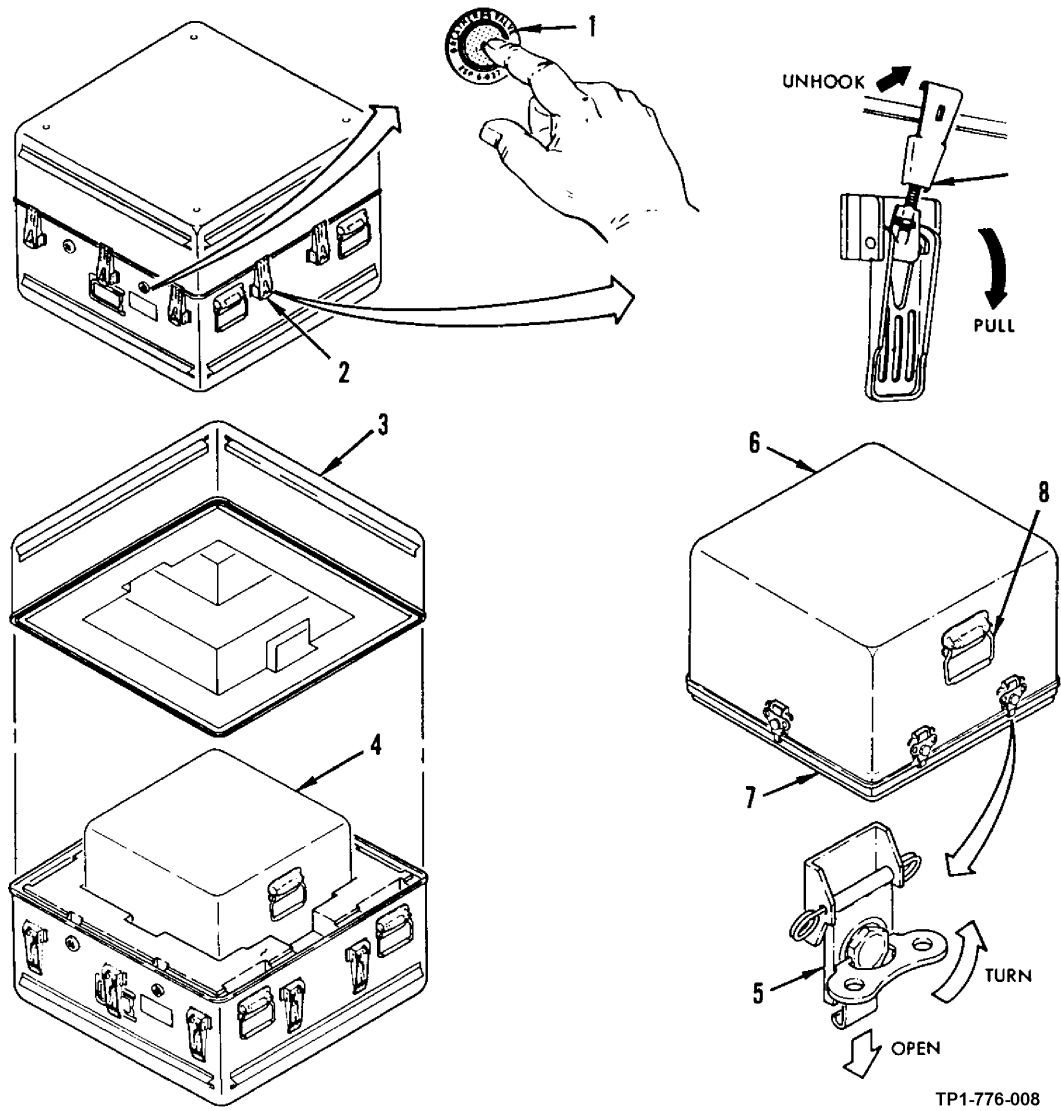

Figure 4-2. Inner Case Removal from Shipping and Storage Container
- (1) Remove inner case assembly from shipping and storage container as follows:
- (a) Press pressure relief (1, figure 4-2) on container.
- (b) Release and unhook container latches (2).
- (c) Remove container cover (3) and set aside on clean dry surface.
- (d) Remove case assembly (4) from container and place on workbench.